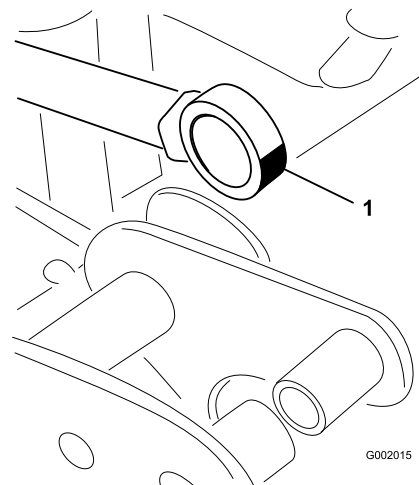

Figure 66
5. Manipulate the actuator-rod-bearing end and apply grease into the bearing (Figure 66).